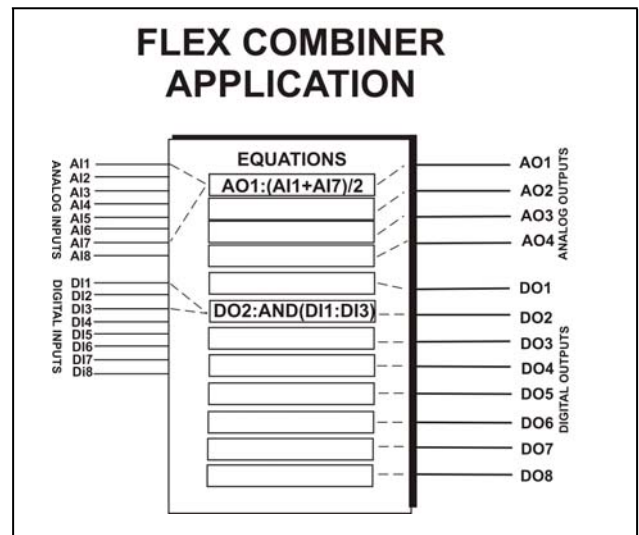

Figure 1-1 - Flexible Combiner Control Diagram
**Figure 1-1** shows a symbolic diagram of an example Flexible Combiner application. In this diagram, there are two equations shown: one for analog output AO1 and another for digital output DO2.